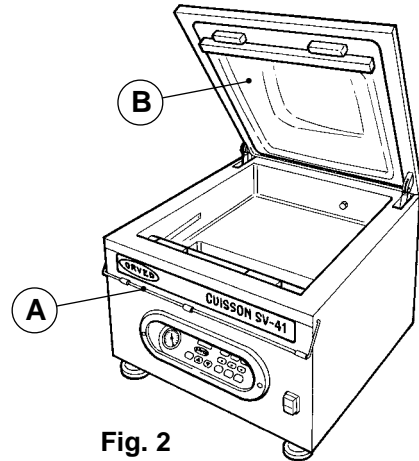
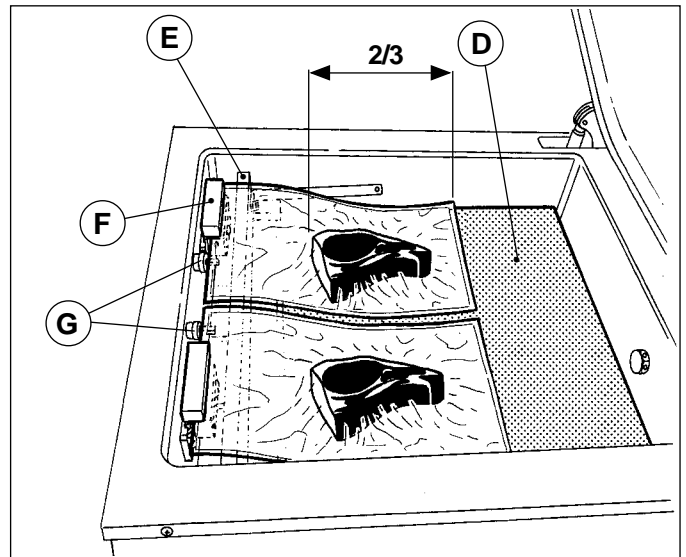
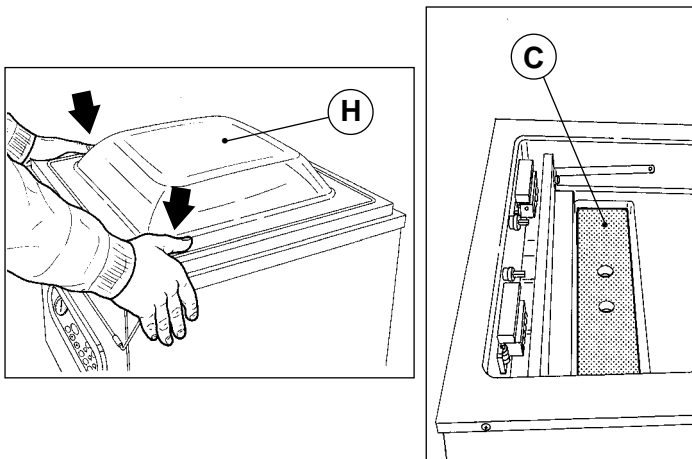

Fig. 2
Fig. 3
Fig. 5
- 1) Lower the lid securing device (A - Fig. 2): the cave's Plexiglas lid (B) opens.
- 2) Place all the shelves in the vertical compartment (C) and position the maximum number of shelves (D) that the chamber can hold in relation to the product to be packaged.
- 3) Select a bag which is suitable for the product to be packaged (the product must fill approximately 2/3 of the bag's serviceable volume). Place the bag containing the product to be packaged inside the vacuum chamber, ensuring it is lying over the sealing bar (E) and the dater stamp (F). If the GAS function is activated, ensure that the nozzle (G) is inside the bag. Two bags can be packaged simultaneously (Fig. 3) or one single bag at a time (Fig. 4), in this case, it is recommended to remove the dater which is not being used (Fig. 5).